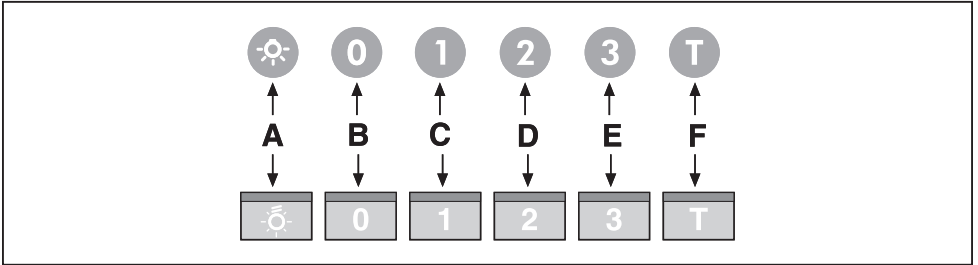

Fig.11
- **Commands luminous (Fig.11)** the key symbols are explained below: